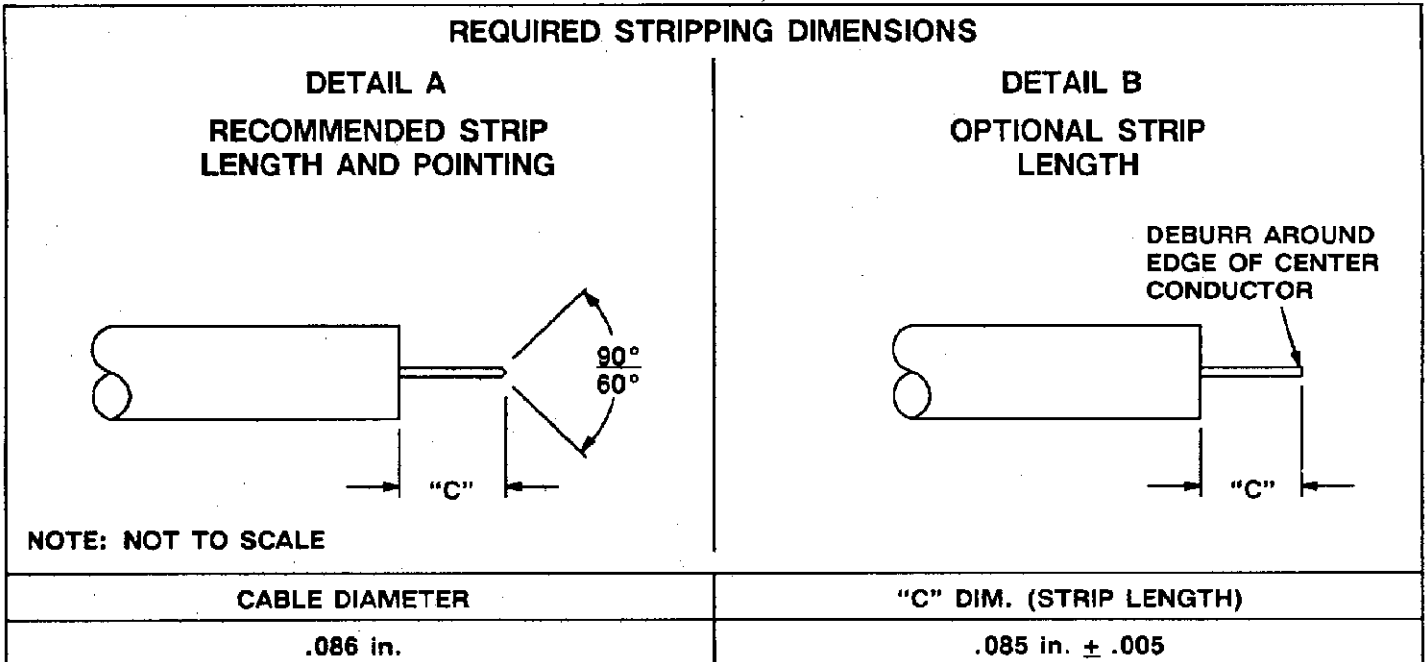

Fig. 2
- Strip cable according to the dimension shown in Figure 2, Detail A. To ensure a sound connection, cable should be pointed.
NOTE If tooling accessories are not used to prepare cable, use optional strip-length dimension provided in Figure 2, Detail B. Deburr around the edge of the center conductor.